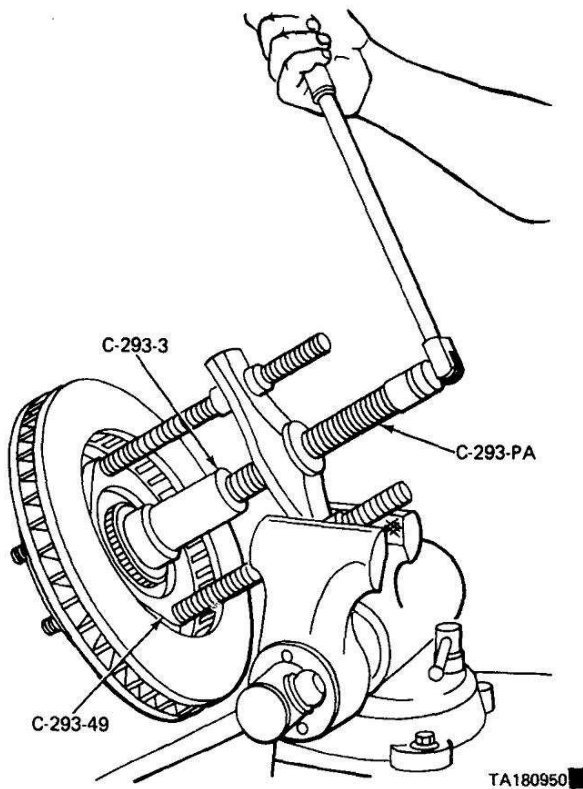

Figure 2-61. Pulling Outer Bearing.
(7) Pull the outer bearing from the hub and rotor, using bearing press C-293-PA and adapters C-293-49 and C-293-3 (figure 2-61).